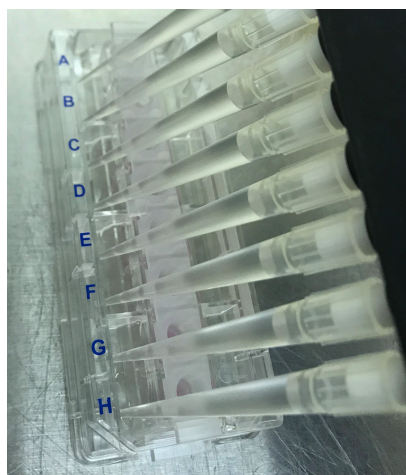

Figure 3. An 8-channel pipettor is used to load the plate moats on either side of the row of wells.
2. Add sterile water or PBS to the moat around the cell culture wells (Figure 3). Use an 8-channel pipettor set to 200 μL , and fill both sides of the moat (two tips will fit into each chamber). If no multichannel pipette is available, fill each chamber of the moat with 400 μL sterile water or PBS (total 3,200 μL).